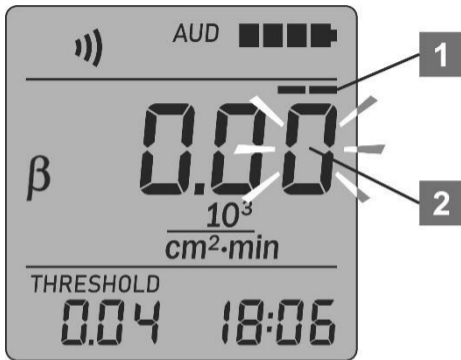

Figure 18 – LCD of the dosimeter
If you keep holding the THRESHOLD button, then during the next two seconds the dosimeter will proceed to the submode of new values programming of alarm threshold level and specified statistical error, and switching on/off audio signaling of registered gamma-quanta and beta-particles (Figure 18). A stripe (1) “moving” across the instantaneous value indicator and blinking of the low-order digit (2) of a new threshold level serve as an indication of this submode.